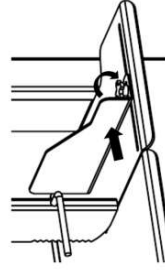
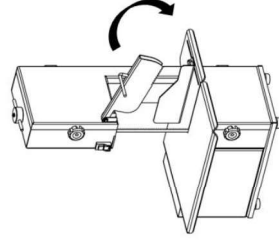
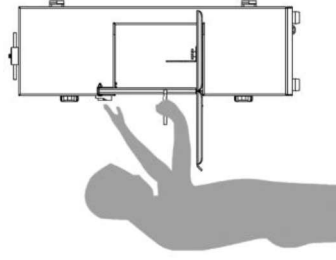

FIG. 5
FIG. 6a
FIG. 6b
- 1.- Select the desired thickness to cut, using the gauge plate assy (10) and turn the knob to gauge plate assy (fig 5).
- 2.- Up de the Pusher and put the product on the table (4)
- 4.- Placing the product against the gauge plate (10) you can start to cut using the pusher (21) to the last cut (Fig. 6a), it is recommended to work front face to the gauge plate (Fig. 6b), **once again, never put your hands or fingers close to the blade, serious personal injury may happen.**